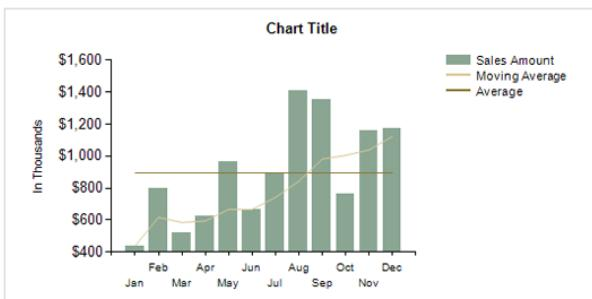

Figure 6-14
11. Save and then preview the results. They should look like Figure 6-14.